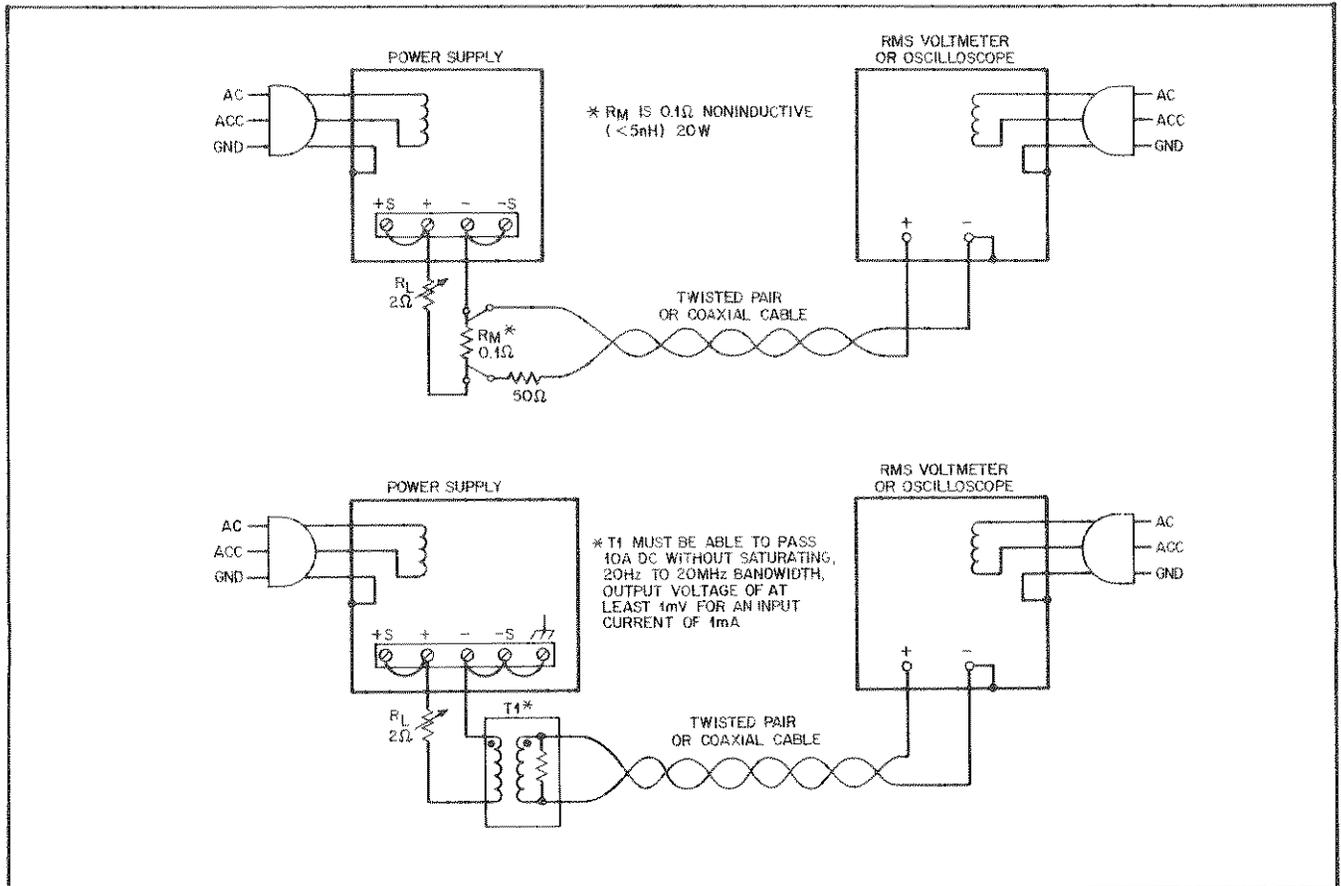

Figure 5-8. Constant-Current Ripple and Noise Measurement Test Setup
5-50 Most of the instructions pertaining to pickup problems associated with constant-voltage ripple and noise measurement also apply to the measurement of constant-current ripple and noise. Figure 5-8 shows two test setups that can be used when measuring the ripple and noise of a constant-current supply. Either test setup can be used depending on the availability of an appropriate monitoring resistor.
5-51 The current-monitoring resistor ( $R_M$ ) in Figure 5-8 can be constructed of parallel-connected resistors. It must have very low inductance to prevent the high frequency components of CC ripple from causing a misleading voltage drop. A current probe/amplifier combination such as Tektronix P6302 probe and AM503 amplifier can be used for the current-monitoring transformer (T1) in Figure 5-8B.
- a. Connect oscilloscope or rms voltmeter as shown in Figure 5-8.